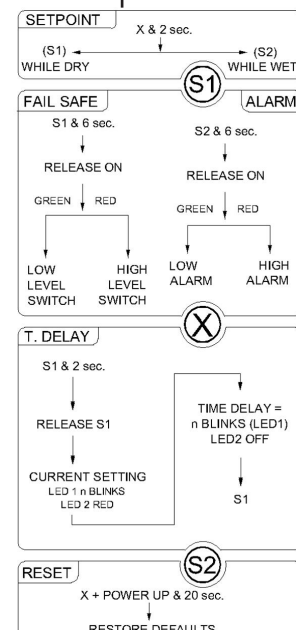

Figure 20
Setup of the RS85 may be achieved using a (1) magnet (provided with switch) positioned on the housing or (2) by means of the pushbuttons on the module. In the following operations, pushbuttons (Figure 19) will correspond to magnet positions (Figure 20) as follows: